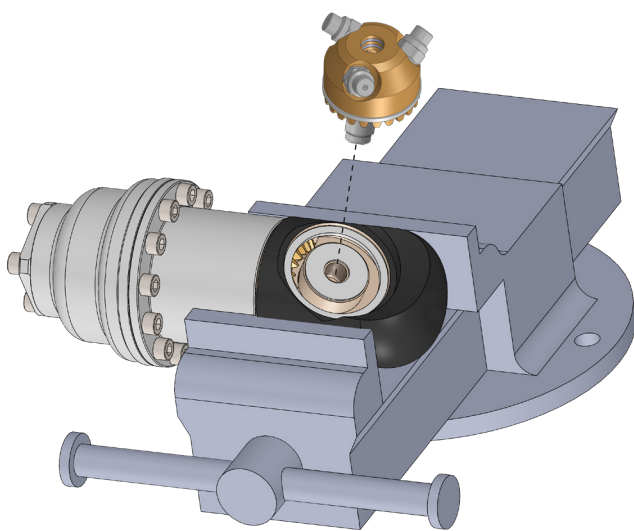

Fig. 9.06
- 9.3.2) Slide out the pin pos.20 from the nozzle holder crown and remove the washers pos.15 - 19 (Fig.9.06).